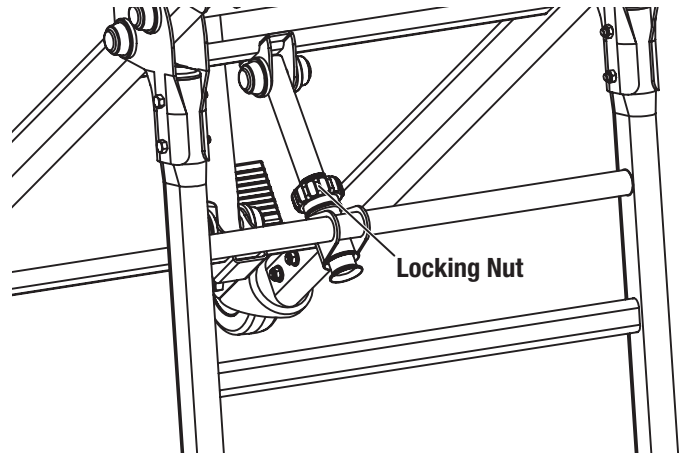

Fig. 8
5. Tighten the locking nut (Fig 8). Make sure all connections are firm and the stand is steady.